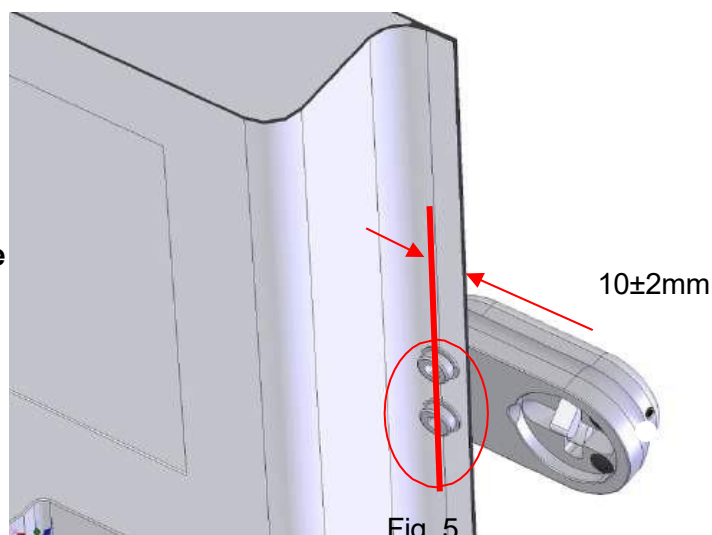

Fig. 5
- The position of the first two holes of 9 mm is approximately  $10 \pm 2$  mm from the vertical edge of the door that opens (see fig. 5). This is a very strong part of the door. The specified tolerance is necessary to ensure that the cylinder heads of the M8 bolts are placed within the edge and never outside.
Before drilling, check that the head of each M8 bolt will remain within the door edge (see fig. 5). If the sheet metal around the holes is not perfectly flat and the M8 bolt heads cannot sit flush, flatten it carefully using pliers and a piece of plastic (fig. 9).